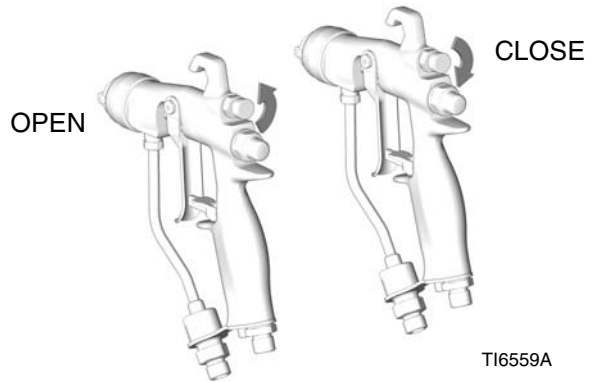

FIG. 13
- Close off the pattern adjustment air by turning the knob clockwise (in) all the way. See FIG. 13. This sets the gun for its widest pattern.
For a narrower pattern, turn the pattern adjustment valve knob counterclockwise (out). See FIG. 13. If the pattern is still not narrow enough, increase the air pressure to the gun slightly or use a different size tip. (Not available for RAC tip guns.)